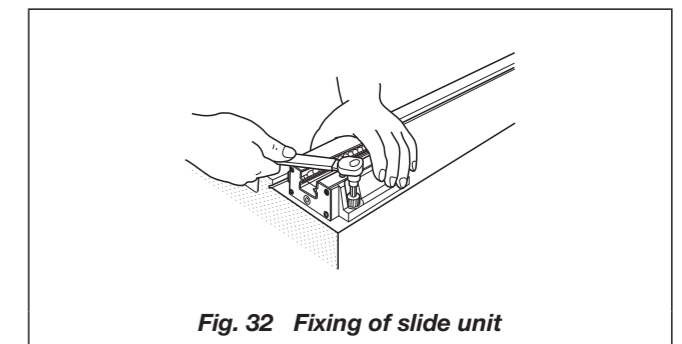

Fig. 32 Fixing of slide unit
④Separation of slide units from track rails
⑤Fixing of Linear Way I and II slide units
- Correctly fit the reference mounting surfaces of Linear Way I and II slide units to the mating reference mounting surfaces of the table and fix the slide units as shown in the figure. (See Fig. 32.)